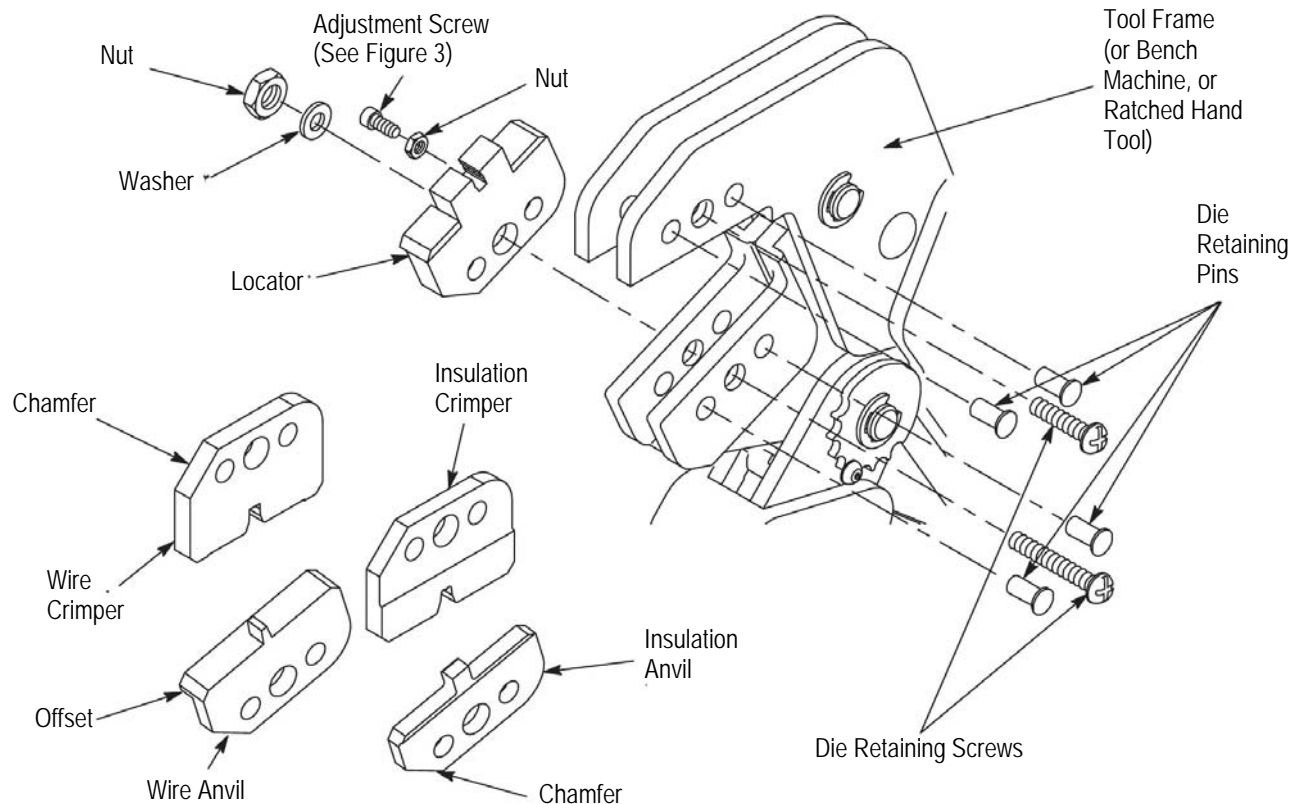

Figure 2
**2. DESCRIPTION** (See Figure 1 and Figure 2.)
### 3. INSTALLATION AND REMOVAL OF DIE SET AND LOCATOR ASSEMBLY (Figure 2)
- Added new information to bottom of Figure 1 table and callout in Figure 2